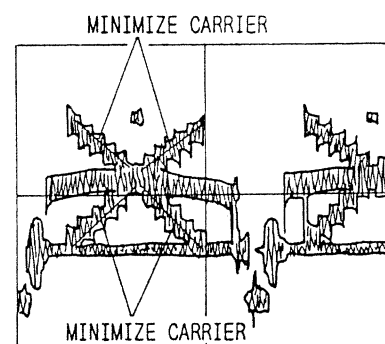

Fig. 4-11
14) Auto White Balance Adjustment (Figs. 4-11, 4-52)